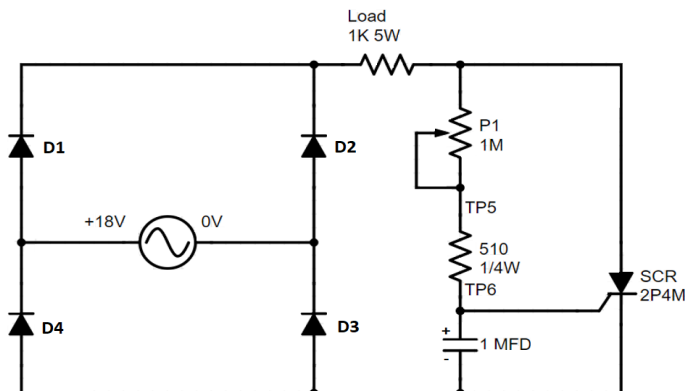

Figure 15
1. Connect the circuit, as shown in Figure 15, using patch cords.